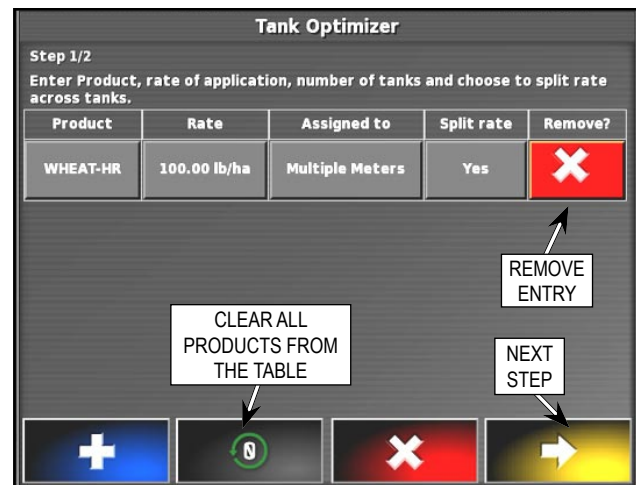

Figure 8.10 - Adding Product Details
1. Select  button to start adding products to the table, line for the first product will appear in the table, refer to *Figure 8.10*.